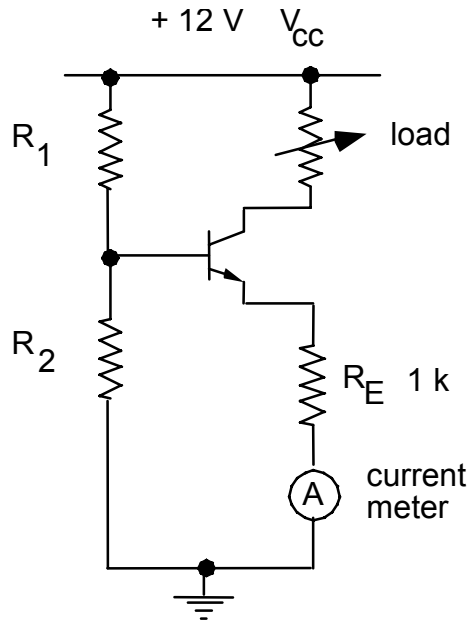

Figure 4-10
“ A current source (Figure 4-10) will supply a constant current to a range of load resistances. The current that is "sourced" or "sunk" is determined by the emitter potential and the emitter resistor R_E .
- Using the +12 V power supply built into your prototyping board, connect the circuit shown in Figure 4-10. For the load resistor, use a decade box, set to 2 kΩ to begin.